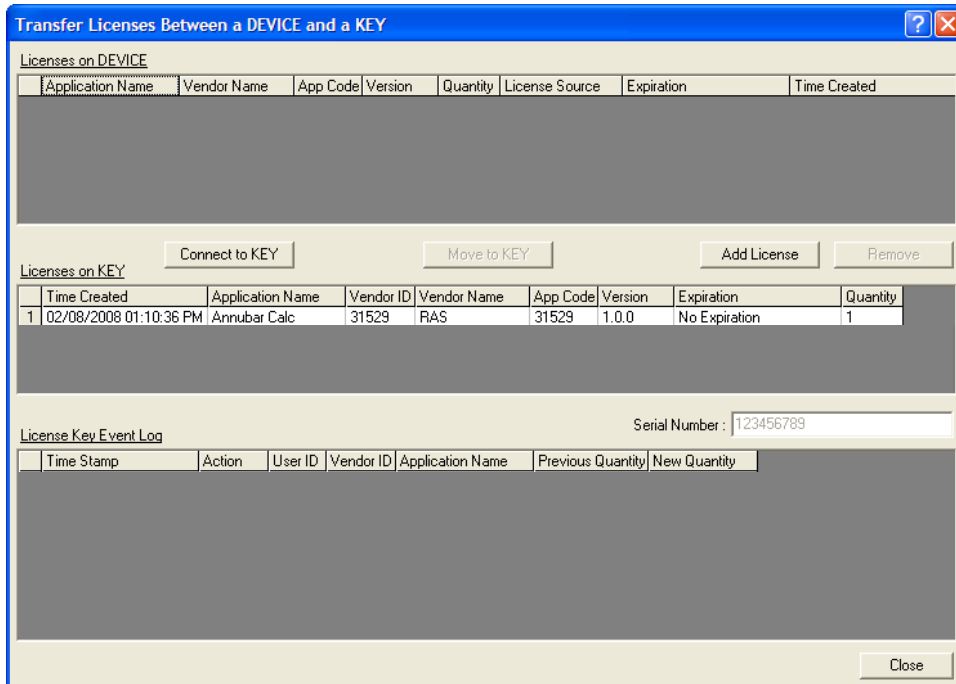

Figure 1. Transfer Licenses Between a Device and a Key
3. Select the key-based license you want to transfer to the FB107 (Annubar Calc, as shown in *Figure 1*).